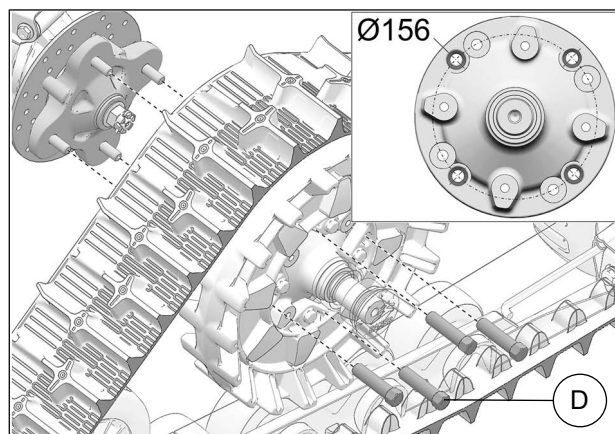

Fig. 8
8. Secure undercarriage to rear hub using provided M12 lug nuts (**D**). Use bolt circle Ø156mm. See Fig. 8